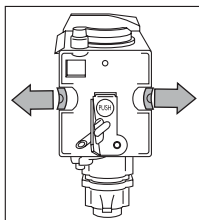

Fig. 44
- ▶ Once inserted, make sure the two red buttons have snapped out (Fig. 44).